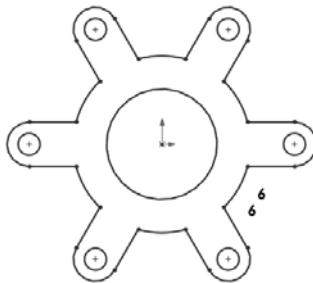

Figure 3-12 Final sketch
10. Enter **25** in the **Radius** spinner in the **Circle PropertyManager**. Next, choose the **OK** button to exit from the **Circle PropertyManager**. The final sketch of the model is shown in Figure 3-12. In this figure, all relations are hidden for clarity.